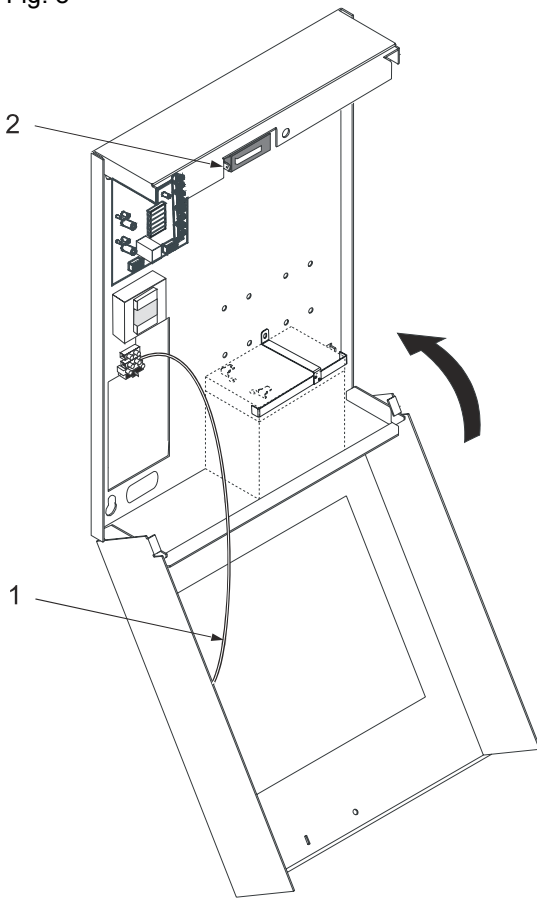

Fig. 9
3. Connect the earthing lead (1) Fig. 9 to the cover.
6. Use eye (2) Fig. 9 to seal.